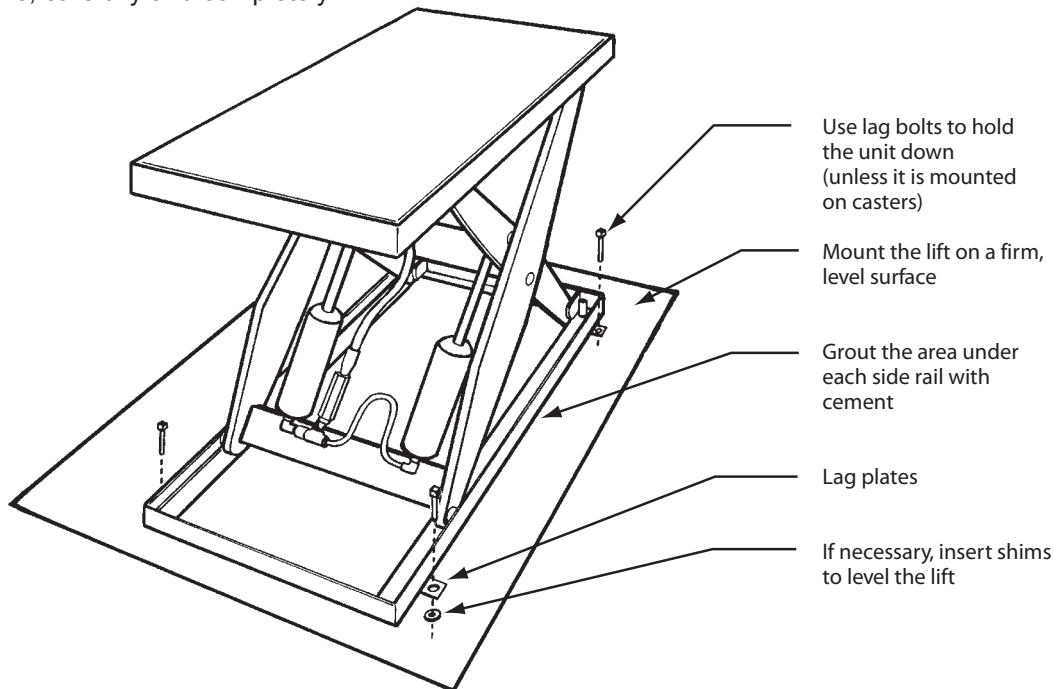
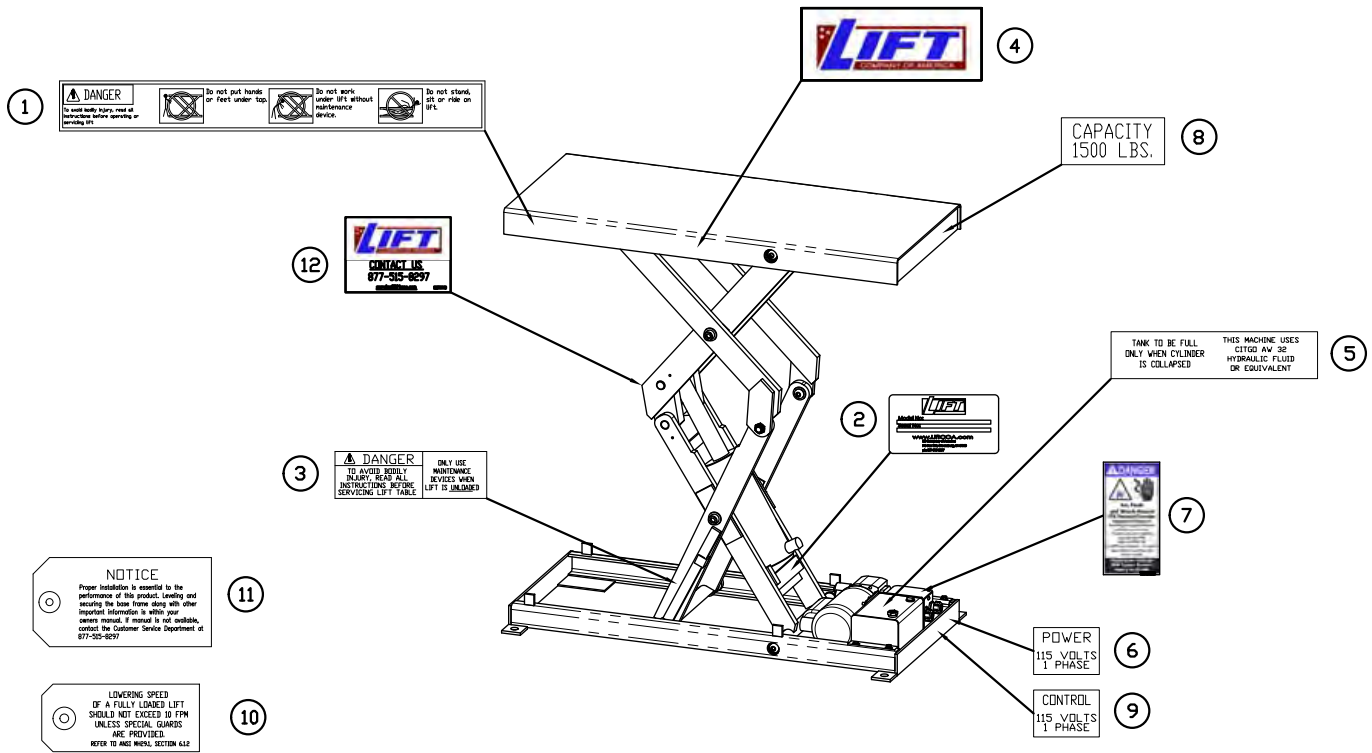

Figure 2 – Mount the Lift Securely (CBD)
Figure 7 – Labels and Precautionary Markings
Remove the shipping material and unskid the lift. On the front of this manual, write down the model number, serial number, and date the lift is placed in service. You can find the model number and serial number on the name plate as shown in Figure 7. You cannot see the name plate without lifting the table top. Use an overhead crane or fork truck to do this. Lift the hinged end of the table top. Move the lift into position, supporting the base of the lift. Install the lift as shown in Figure 2.
Once you are sure the lift is positioned correctly, mark the locations of the lag holes in the base frame, and drill the holes. If necessary, insert metal shims to level the base of the lift. Insert and tighten the lag bolts to secure the lift. Grout under the base rails to prevent vibration and distortion of the base frame, as shown in Figure 2. If the lift is lowering too quickly or too slowly, you can change the “down speed” by adjusting the flow control. (optional feature)
Locate the lift on a firm, flat surface as shown in Fig. 2. Stationary lifts should be lagged to the floor. The floor lock should be engaged on portable lifts.
The precautionary labels on the lift are there for your safety. If you find that the labels are worn or missing, or have been painted over, ask Maintenance to replace the labels before you use the lift. The labels are shown in Fig. 7
- The warning labels on the lift are there for the safety of the operators. See Figure 7. If the labels are worn or missing, or have been painted over, replace them before releasing the lift for operation.
Be sure all of the warning labels are in position and legible. The labels are shown in Figure 7. **The warning labels are intended to protect your workers.** If the labels are missing, or if they have been painted over, replace them.